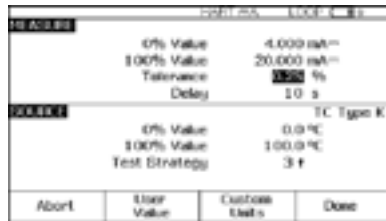

Figure 21.
3. If source was not configured in the previous step press the Measure/Source button and configure the source for a type K thermocouple. Press Measure/Source until you are at the dual screen. Press the **As Found** softkey and press **ENTER** to select **Instrument** calibration. Move the cursor to **Tolerance** and ENTER the appropriate test tolerance (0.25 % in this example). Verify that the **0 % Source Value** and **100 % Source Value** are the proper, **nominal** operating values for the transmitter (0.0 °C and 100.0 °C in this example, Figure 21). If the Lower (0 %) and Upper (100 %) Range Values (LRV and URV) have been previously modified for calibration purposes, you will need to ENTER the nominal values. For example, if a previous calibration modified the URV to 100.2 °C, you need to manually ENTER the nominal value of 100.0 °C for the **100 % Value**. Entering nominal zero and span values ensures that errors are calculated correctly.